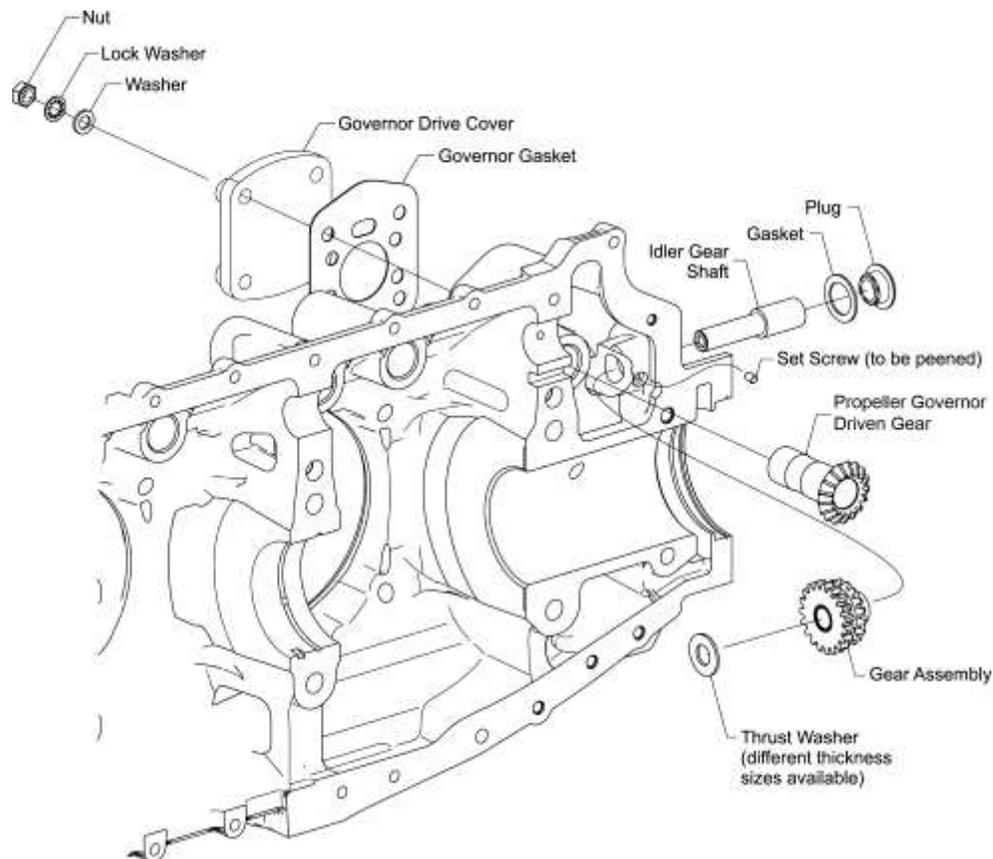

Figure 13
- (1) If not already done, remove the four nuts, lock washers and washers (Figure 13) from the propeller governor or the propeller governor drive cover. Discard the lock washers.
- (2) Remove the propeller governor or the propeller governor drive cover and governor gasket. Discard the governor gasket.
- (3) Cut and remove the safety wire/cable from the idler gear shaft plug (Figure 13).
- (4) Remove the idler gear shaft plug and gasket from the crankcase (Figure 13). Discard the gasket.